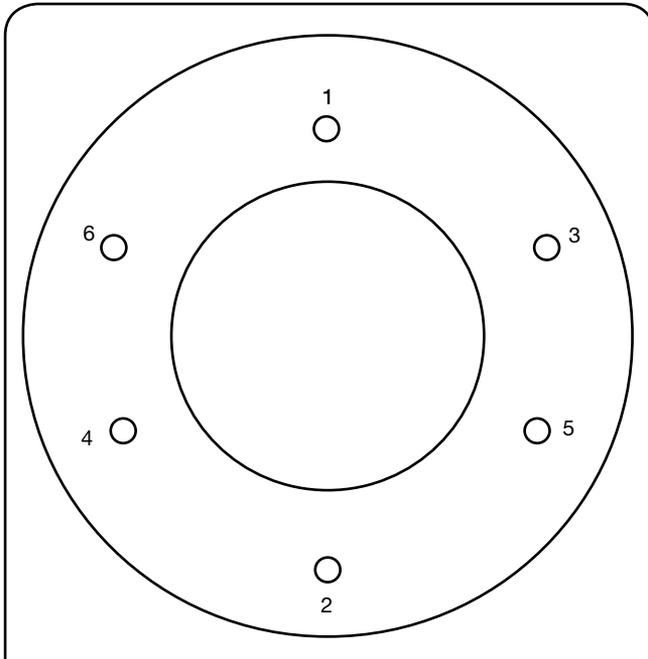

Figure 19: Pilot Flange Nuts Tightening Sequence
3. Install the lower Gasket (52) for sensing tube in the main valve bonnet.
4. Install the Sensing Tube (17) in the main bonnet.
5. Install second Gasket (52) in the groove in the sensing tube flange.
6. Install the pilot Base (20) into the main valve bonnet. The outlet of the pilot should face the outlet of the main valve.
7. Install the pilot flange Stud Nuts (45) and torque down evenly. See Figure 19 and Table 7 for torquing values.
8. Install the fittings on the discharge tube. Also install O-Rings (12) onto the discharge tube.